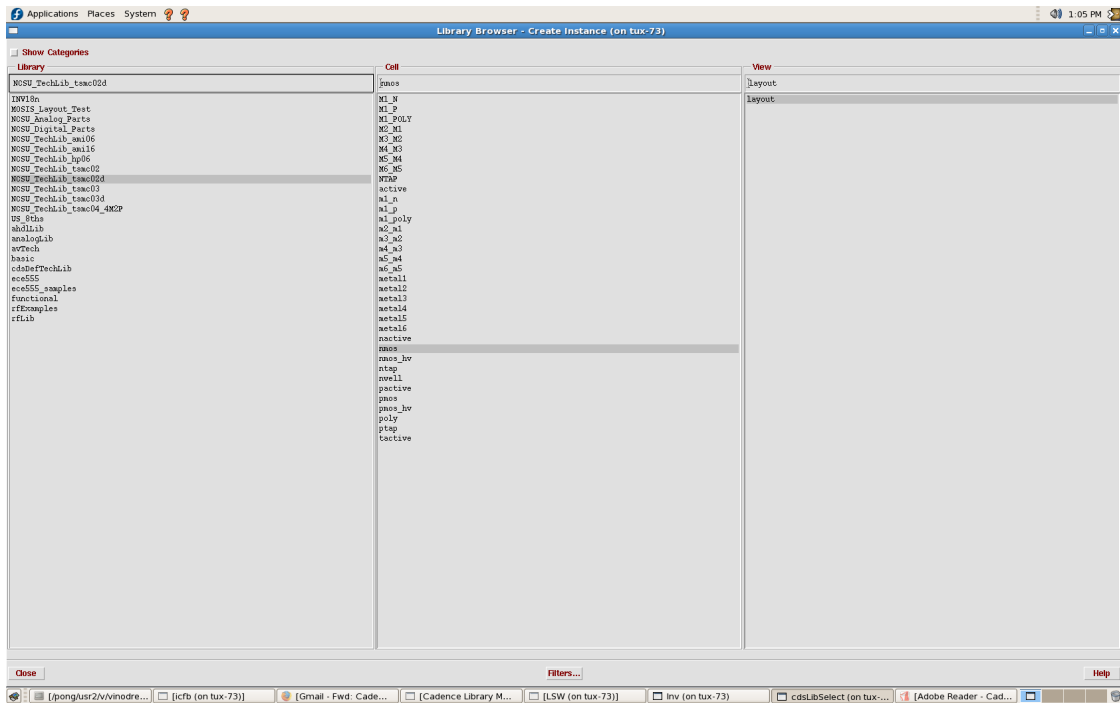

Fig. 4. Library Browser Window
- The library browser window opens as shown in Fig. 4.